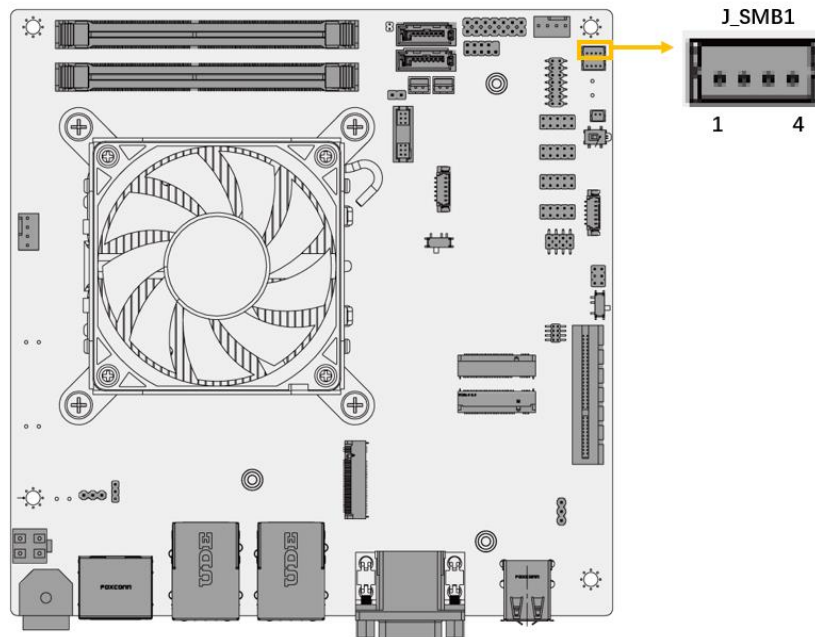

Figure 3-15: SMBus Connector Location
- CN Location:** See Figure 3-15